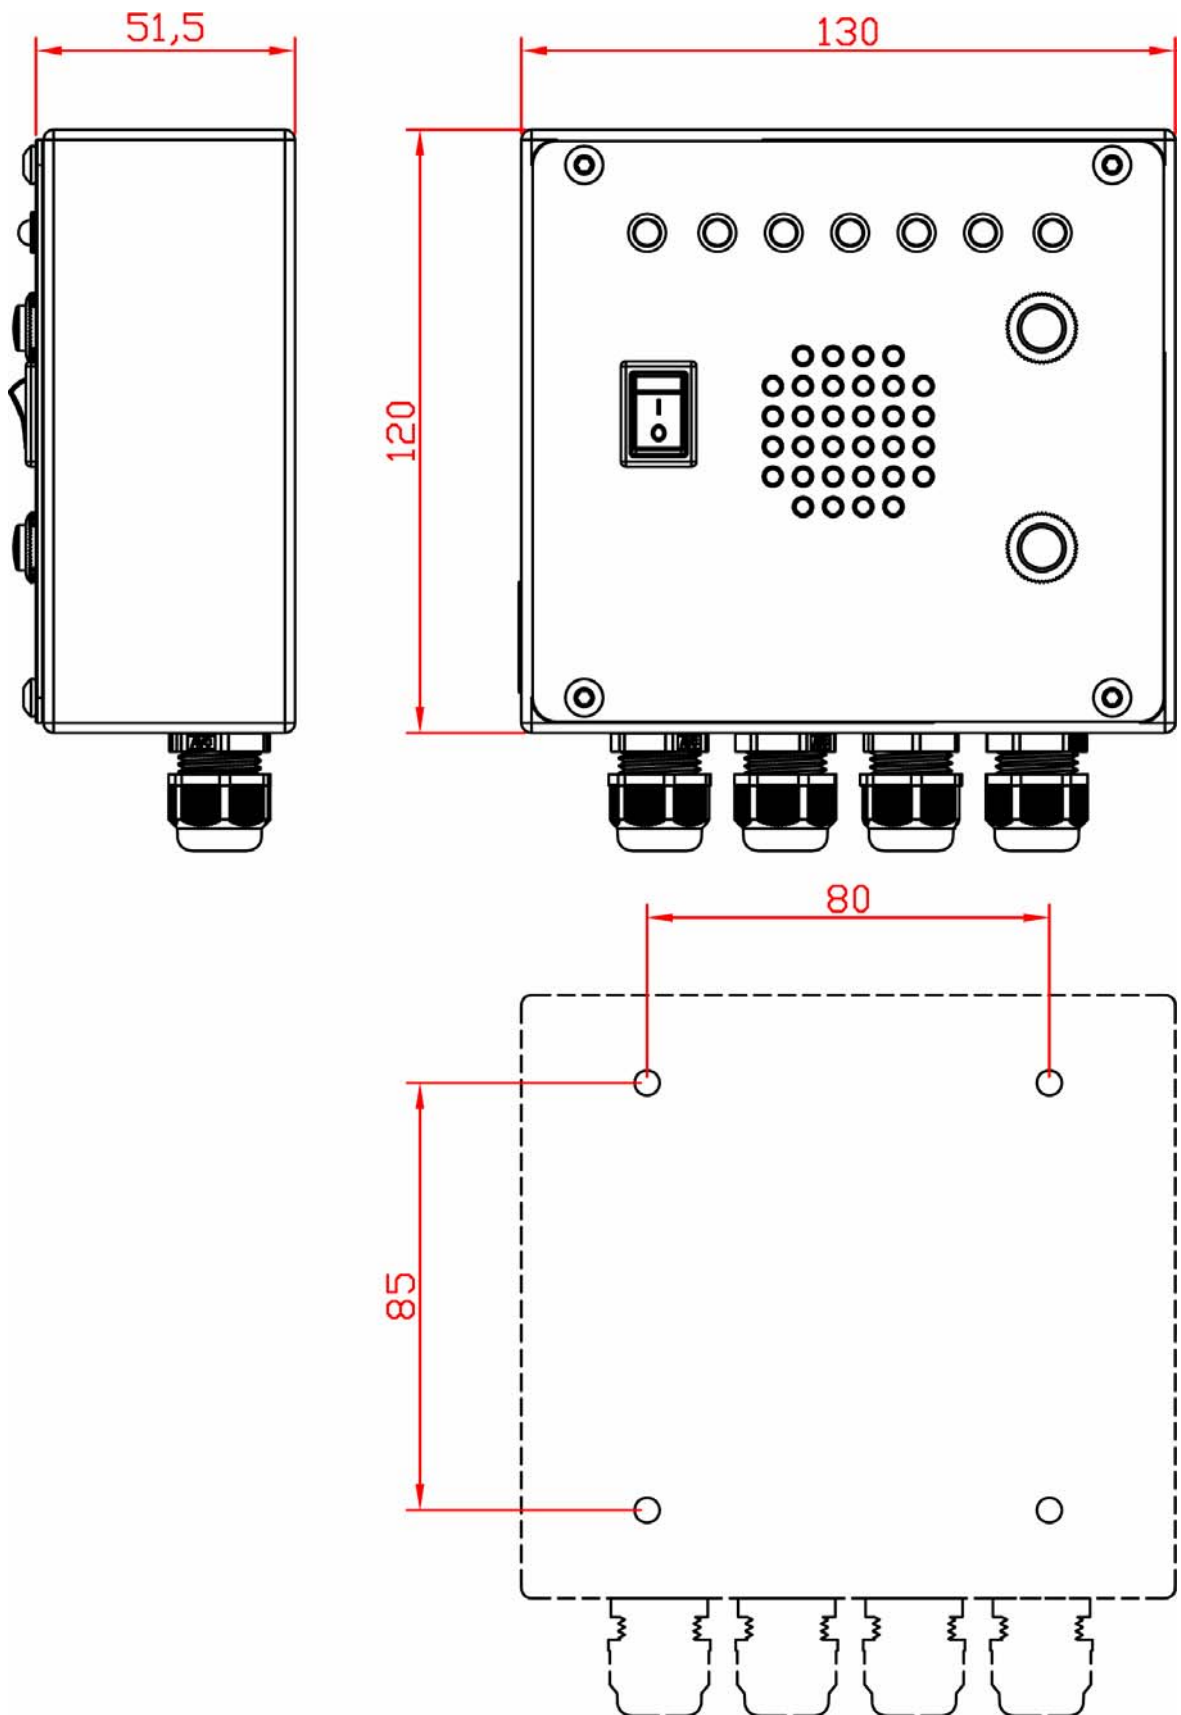

Fig. 2. Dimensional drawing.
2. Prepare mounting holes on the panel for device installation. (See Fig.2)